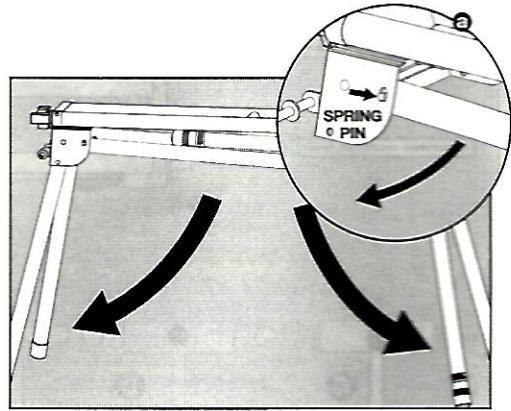

FIGURE 1
1. Fold legs out on stand by pushing spring pin in, to unlock legs from folded position as shown in Figure 1 & 1a.